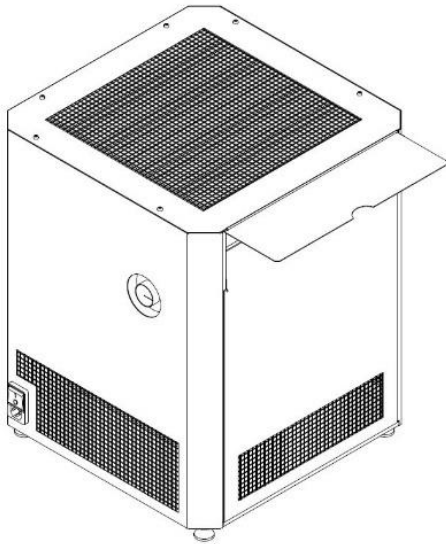

Figure 1
- 2.) Open filter door flap on the side of the unit. See Figure 1.